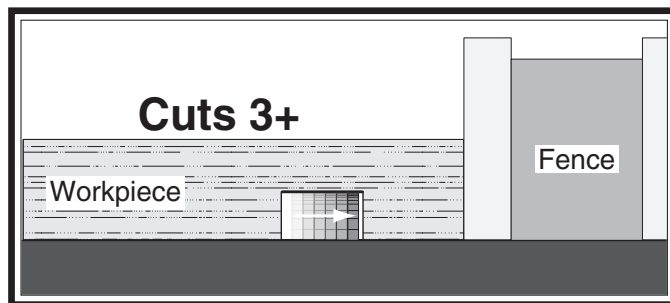

Figure 75. Additional single-blade dado cuts.
8. Make additional cuts (see **Figure 75**) in center of dado to clear out necessary material. Dado is complete when channel is completely cleared out.